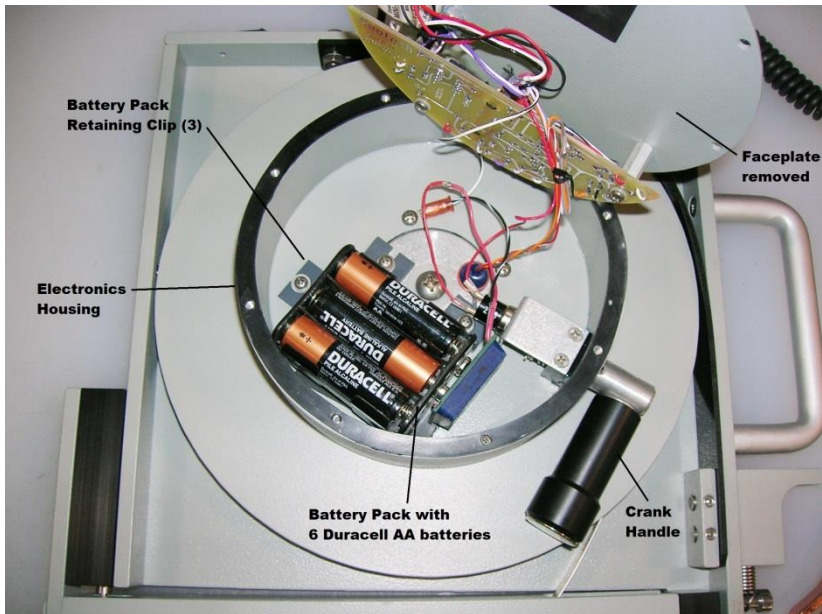

Figure 3-1 – Location of Interface Probe Battery Pack
2. Carefully remove the cover and lay it to one side (do not tug or pull on the wiring). Figure 3-1 shows the location of the battery pack within the electrical housing.